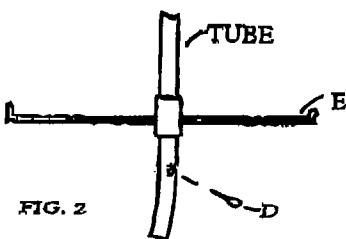

FIG. 2
4. Position cotter pin (D) in desired hole located in lowest series of holes in the bottom tube. Drop tier (E) over top of tube and rest on cotter pin. Repeat with remaining cotter pins and tiers. Refer to Fig. 2.